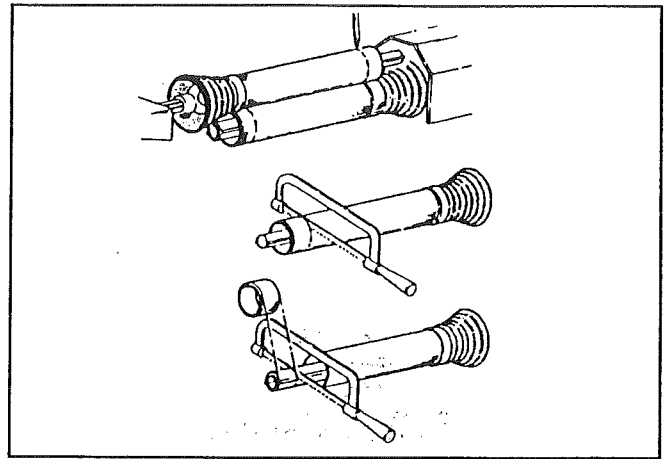

Fig. 8
**FIG. 8** It may be necessary to adapt the length of the PTO-shaft, this is done in the following way: When shortening the shaft all 4 tubes must be shortened equally much. Tube and shaft ends are rounded by a file, cleaned of chips and greased again.